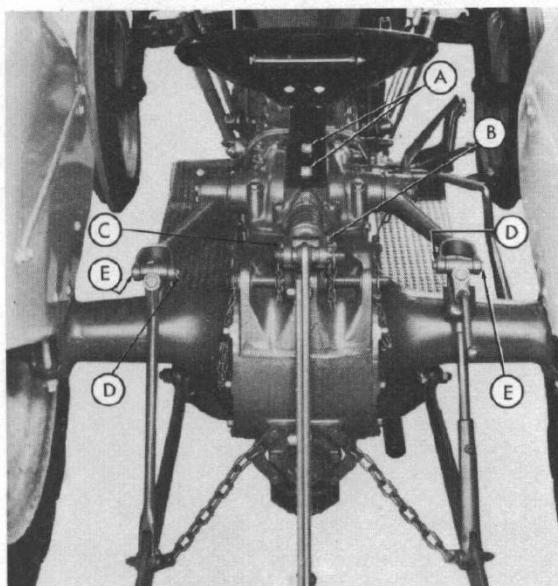

Fig. 1
- Step 1—Remove the two hex head nuts (A-Figure 1) and remove the tractor seat.
- Step 2—Remove the cotter pin (B-Figure 1) from the rocker pin.
- Step 3—Pull the rocker pin (C-Figure 1) and free the rocker from the main control spring yoke.
- Step 4—Remove the cotter pins (D-Figure 1) from both leveling arm knuckle pins.
- Step 5—Remove the knuckle pins (E-Figure 1) disengaging the leveling arms from the lift arms.